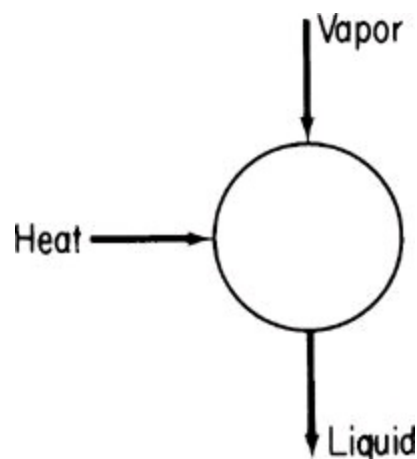

Figure P12.1
- 12.1.** Determine the number of degrees of freedom for the condenser shown in Figure P12.1.